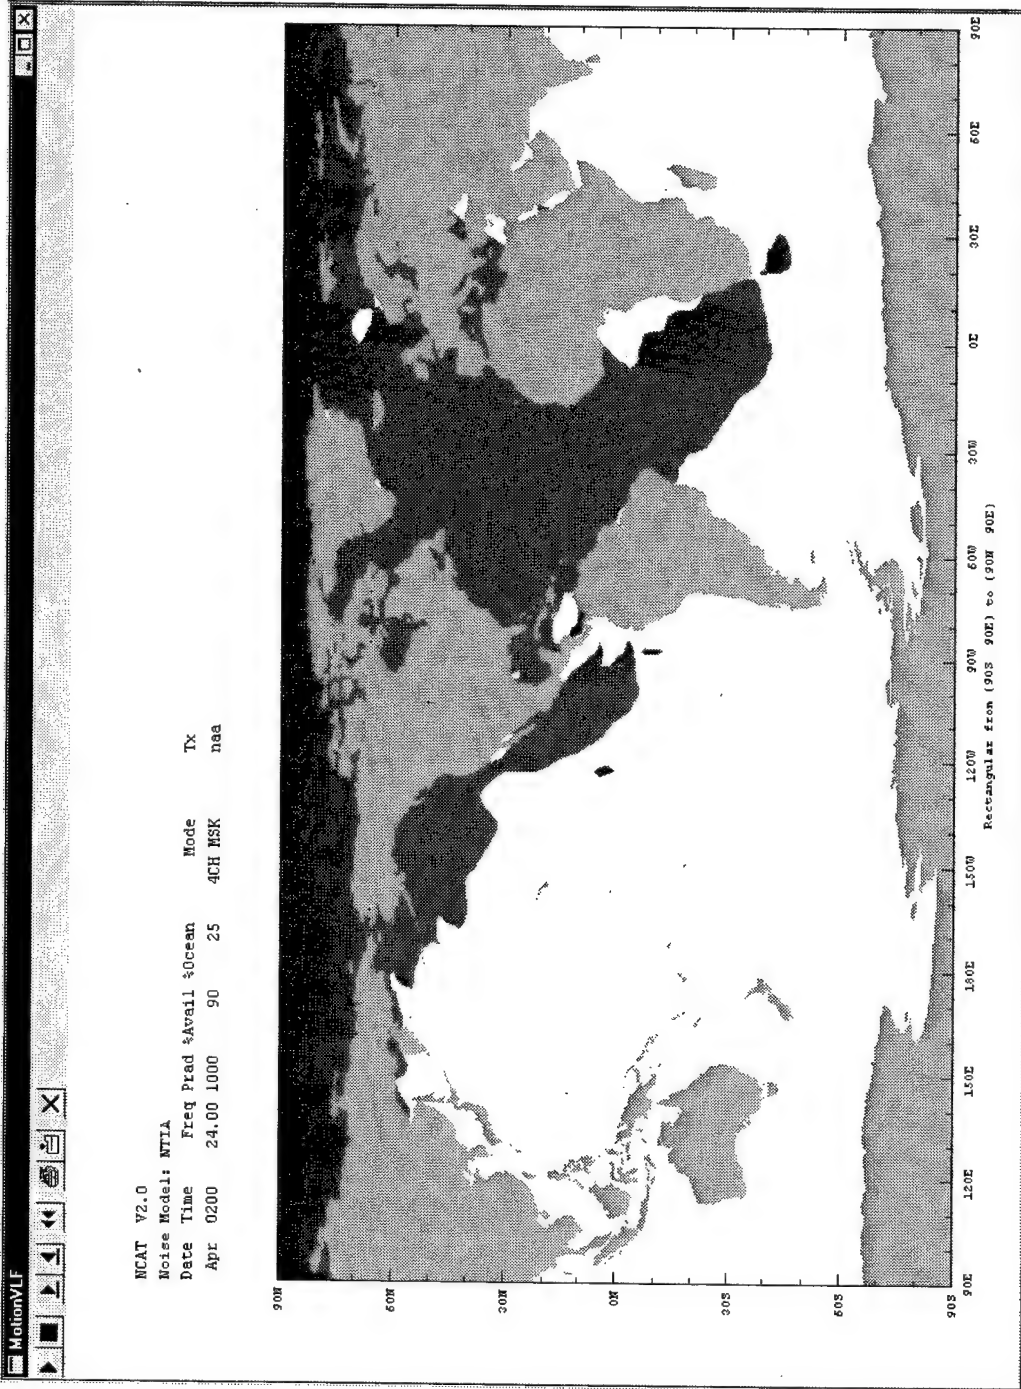

Figure 23. Example of a coverage chart.
- A series of coverage charts can be produced for a selected transmitter (using the last map area selected). Various options (described in section 4.4) may be selected. To view the selected series of coverage charts, select Run Scenario -> Show Single Coverage... or Run Scenario -> Show Joint Coverage.... Controls for viewing the coverage charts are described in section 8.6. Figure 23 is an example of the resulting hard copy.